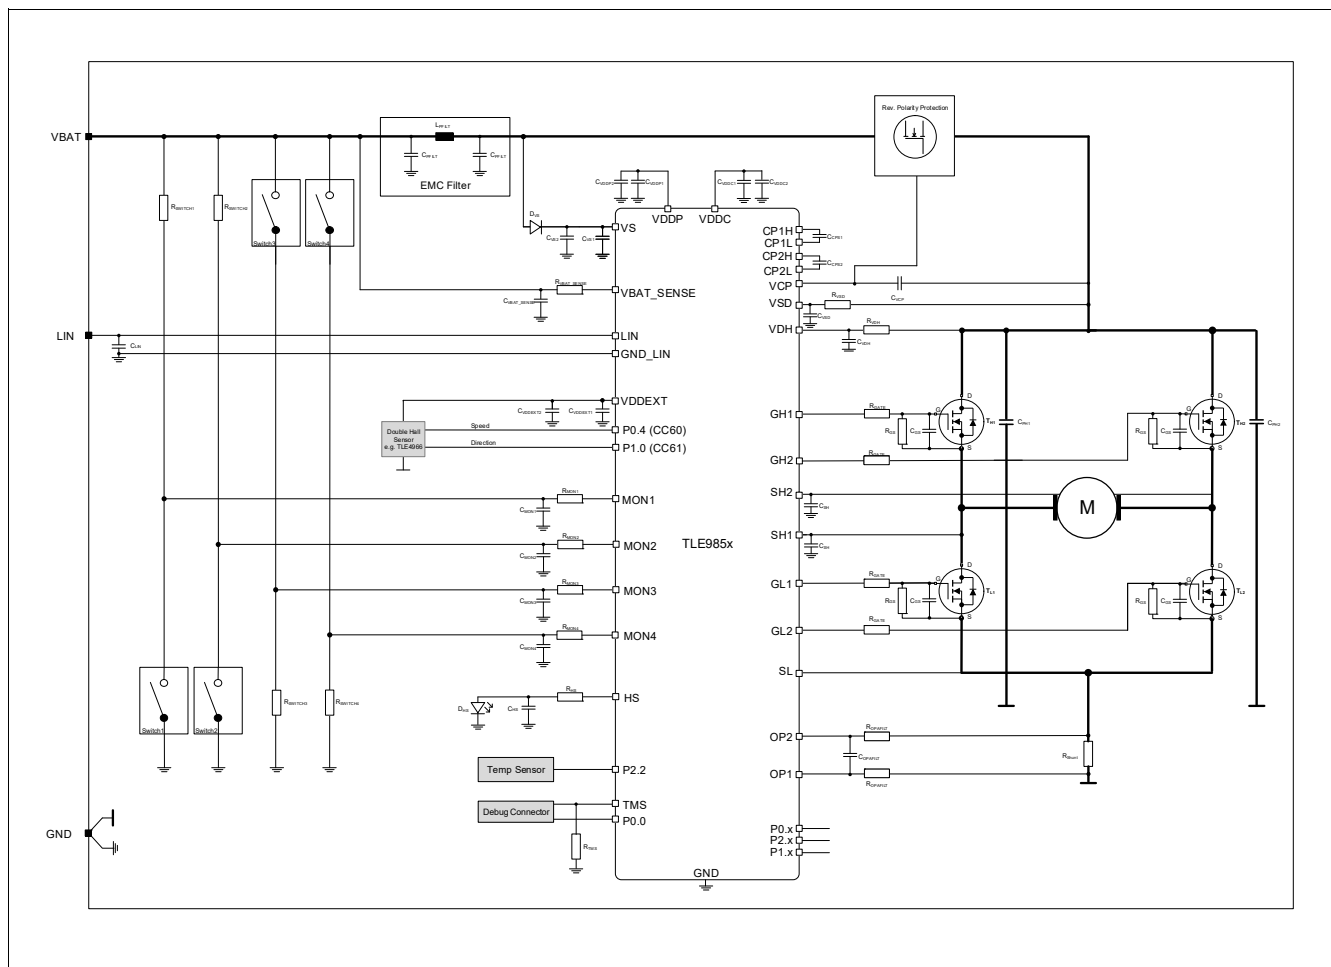

Figure 233 Simplified Application Diagram Example
- 2) With external circuit as shown in Figure 233.